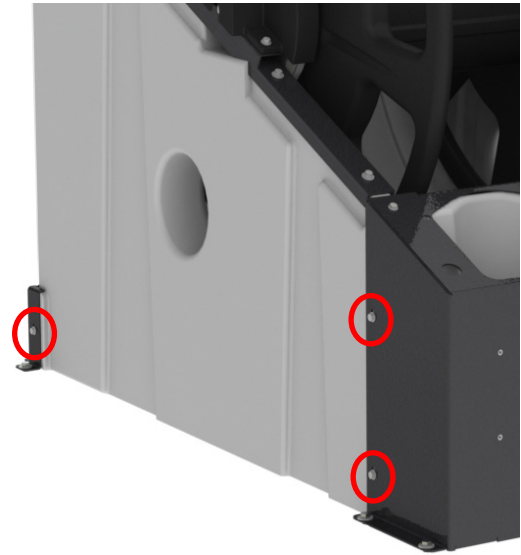

Figure 59. Loosen But Do Not Remove 3 Bracket Bolts
5. Loosen, but do not remove, the 3 bracket bolts on each side of the HydraCradle Tank before securing the tank to the van floor (see circled bolts in Figure 59).
7. After tightening the 6 bolts that secure the tank to the floor, tighten the bracket bolts (3 on each side) as indicated in Figure 59.